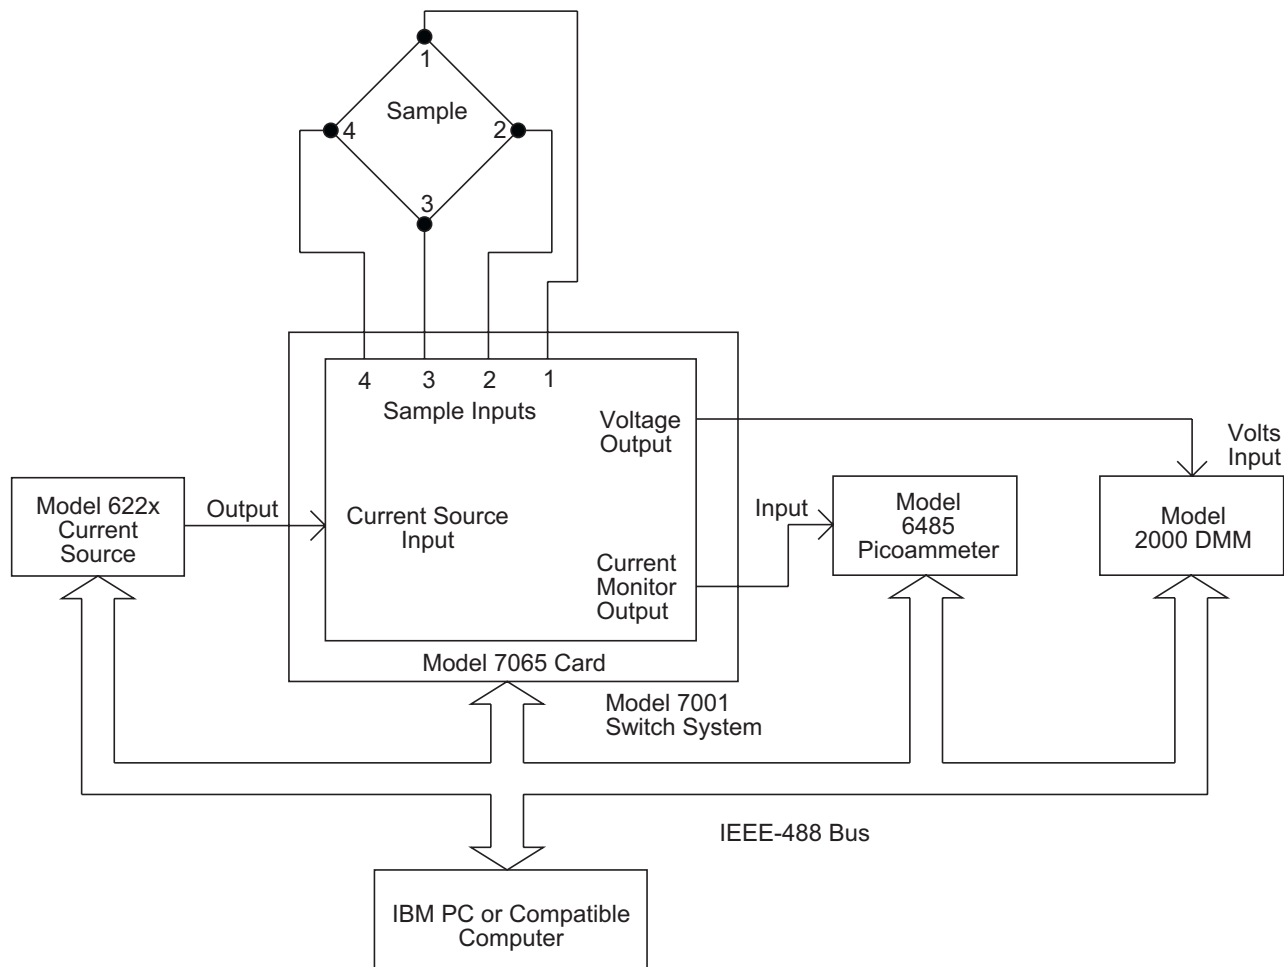

Figure 3. Test Configuration for Programs 1 and 2
- Program 1, Hall coefficient: see Figure 3.
- Program 2, van der Pauw resistivity: see Figure 3.